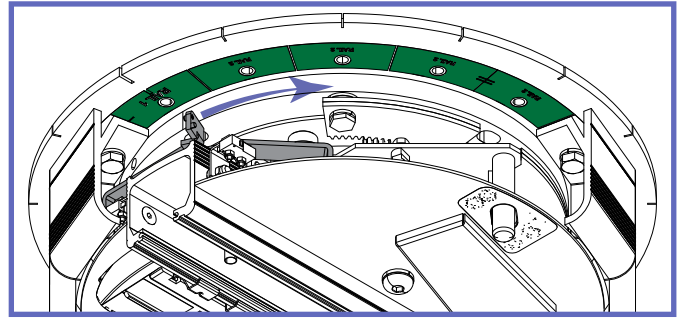

Fig.11
- 5) Rotate the limit arm inside the turntable to position it between "RAIL 1" and "RAIL 2", see Fig. 11.